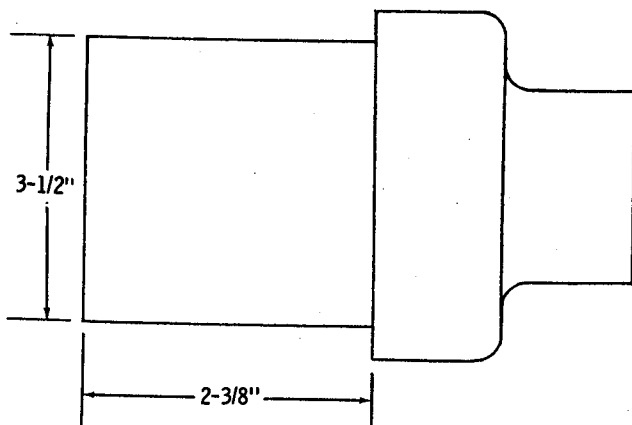

FIG. 70
6. On axle Part Nos. 131508 and 190009, because of the design of the companion flange, walls of standard 2-5/8-inch sockets are too thick to permit removal of pinion shaft nut. Grind or turn standard socket to dimensions shown in Fig. 70.